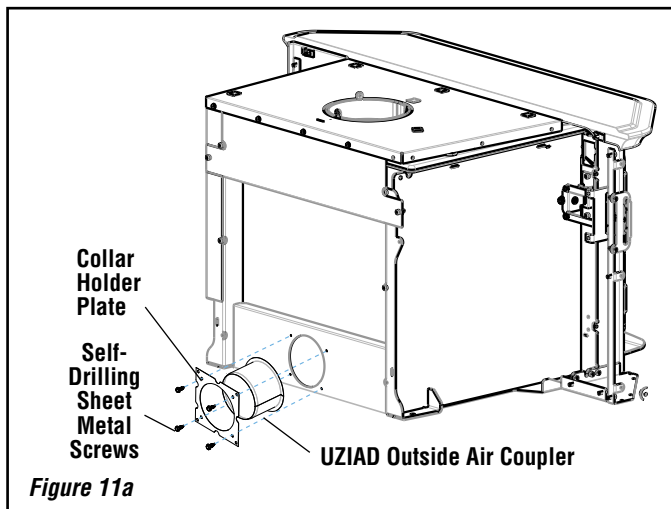

Figure 11a
Collar with Collar Holder: Center the 4" dia. collar on the air intake opening and then secure with the collar holder, using the four (4) 5/8" Tek Screws provided, lining the plate up with the capture holes on the unit. In some instances the capture holes may be absent; the tek screws should then be used to start the holes directly (*Figure 11a*).